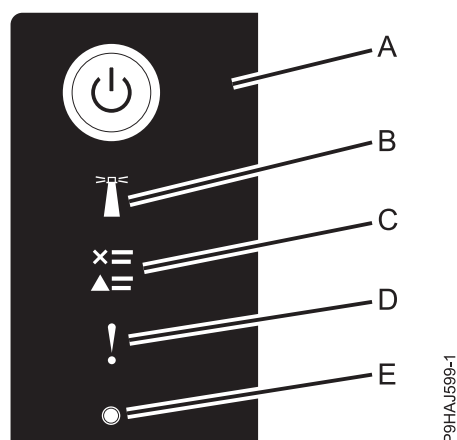

Figure 25. Control panel LEDs
3. Press the power button (**A**) on the control panel, as shown in Figure 25.